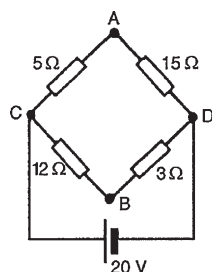

Figure 13.34
- (vii) To find the voltage across AB in Fig. 13.34: since the 20 V supply is across the 5Ω and 15Ω resistors in series then, by voltage division, the voltage drop across AC ,